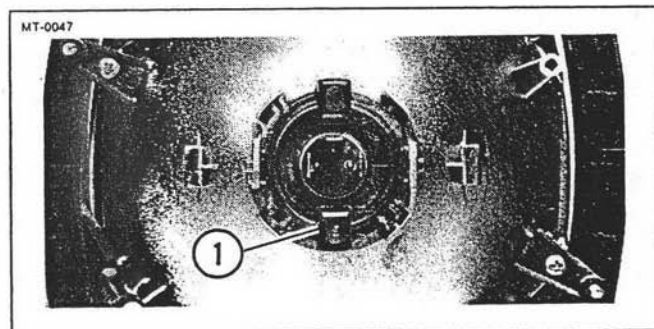

Figure 5-13. Bulb Holder
4. See Figure 5-13. Turn bulb holder (1) counterclockwise 1/4-turn to unlock bulb. Remove bulb holder.